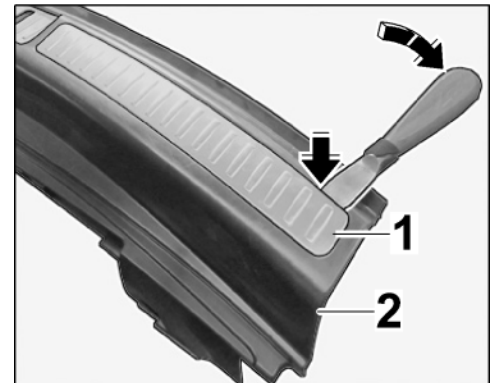

Figure 27
4.1.2 Insert a POM (plastic) wedge between the trim and lock carrier cover and lever off the trim (⇒ *Figure 27*).